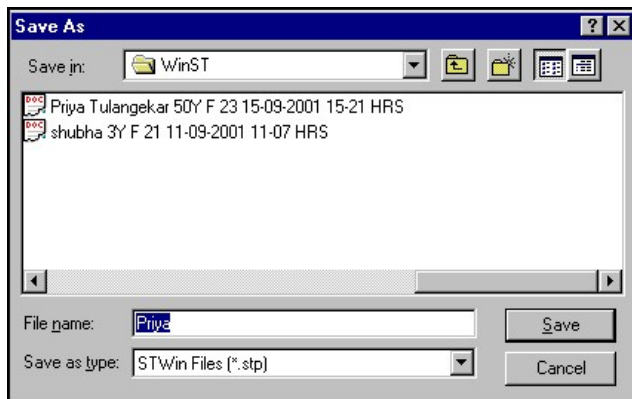

Fig.5.14: Save test.
- The patient detail dialog box is displayed you can change the patient details as shown in fig.5.14.